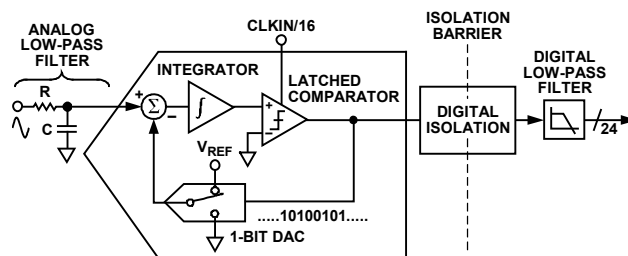
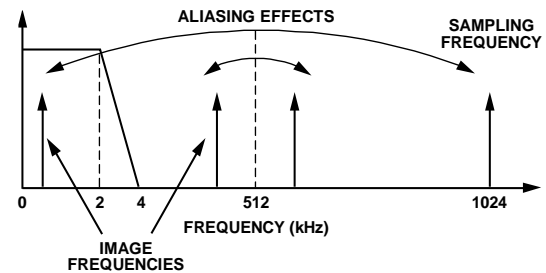

Figure 25. First-Order Σ - Δ ADC
Figure 27. Aliasing Effects
The ADE7912/ADE7913 have three second-order Σ - Δ ADCs. For simplicity, the block diagram in Figure 25 shows a first-order Σ - Δ ADC. The converter is composed of the Σ - Δ modulator and the digital low-pass filter, separated by the digital isolation block.
Figure 25 also shows an analog low-pass filter (RC) on the input to the ADC. This filter is placed outside the ADE7912/ADE7913, and the role is to prevent aliasing. Aliasing is an artifact of all sampled systems, as shown in Figure 27. Aliasing refers to the frequency components in the input signal to the ADC that are higher than half the sampling rate of the ADC and appear in the sampled signal at a frequency below half the sampling rate. Frequency components above half the sampling frequency (also known as the Nyquist frequency, that is, 512 kHz) are imaged or folded back down below 512 kHz. This happens with all ADCs, regardless of the architecture. In Figure 27, only frequencies near the sampling frequency of 1.024 MHz move into the bandwidth of interest for metering, that is, 40 Hz to 3.3 kHz, or 40 Hz to 2 kHz. To attenuate the high frequency noise (near 1.024 MHz) and prevent the distortion of the bandwidth of interest, a low-pass filter (LPF) must be introduced. It is recommended that one RC filter with a corner frequency of 5 kHz be used for the attenuation to be sufficiently high at the sampling frequency of 1.024 MHz. The 20 dB per decade attenuation of this filter is usually sufficient to eliminate the effects of aliasing.
All ADCs in the ADE7912/ADE7913 produce 24-bit signed output codes. With a full-scale input signal of 31.25 mV on the current channel and 0.5 V on the voltage channels, and with an internal reference of 1.2 V, the ADC output code is nominally 5,320,000 and usually varies for each ADE7912/ADE7913 around this value. The code from the ADC can vary between 0x800000 (−8,388,608) and 0x7FFFFF (+8,388,607); this is equivalent to an input signal level of ±49.27 mV on the current channel and ±0.788 V on the voltage channels. However, for specified performance, do not exceed the nominal range of ±31.25 mV for the current channel and ±500 mV for the voltage channels; ADC performance is guaranteed only for input signals within these limits. For input signals outside these limits, the digital low-pass filter of the ADCs (see Figure 25) overflows.